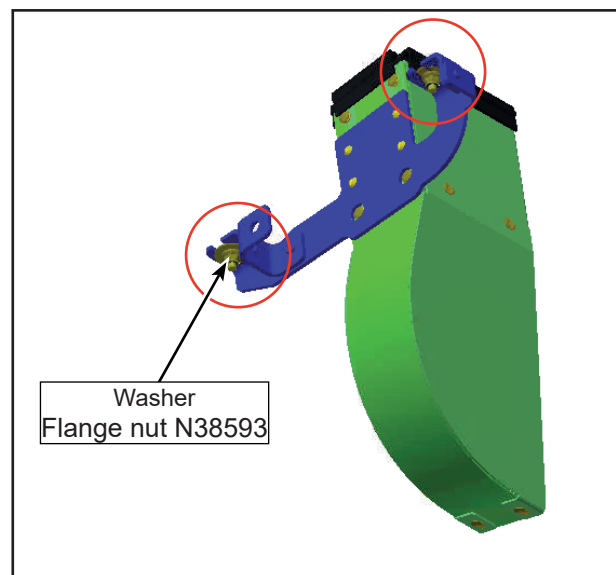

Figure 13 - Installation of Washer and Flange Nut
- 1.12. Mount the deflectors using the same washer to secure with a new flange nut N38593 (see figure 13).